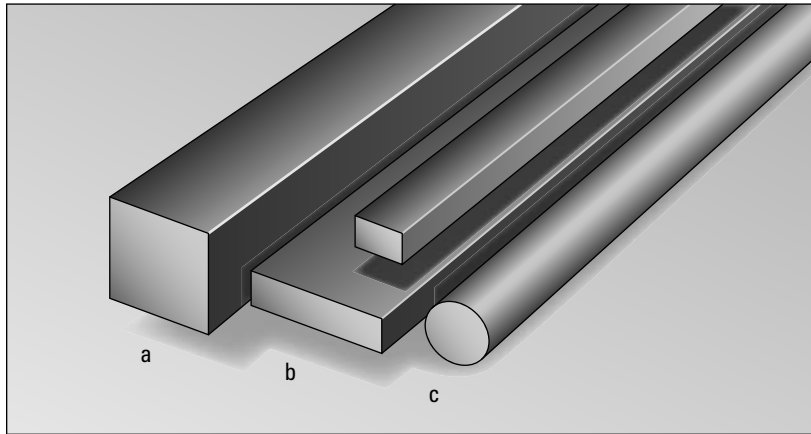

Figure 2-1: Square (a), flat (b), and round (c) steel bar shapes.
- ✓ **Steel bars** are made in an array of shapes, but the most common are round, square, or flat. You can see some examples of steel bar shapes in Figure 2-1.